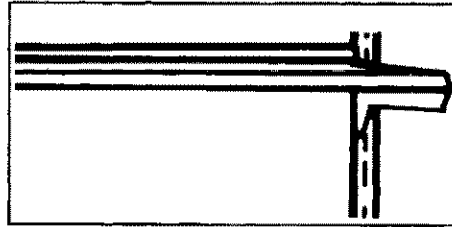

FIGURE 31
**Adjustable Cantilever Glass Shelves.** These shelves attach to metal tracks in the back of the interior. See Figure 31. To remove, tap upwards at rear of shelf hooks. Lift shelf and pull out. To install, tilt shelf and engage upper hooks in desired track slots. Lower shelf front and tap downwards near the tracks until shelf hooks are securely seated and shelf is level.